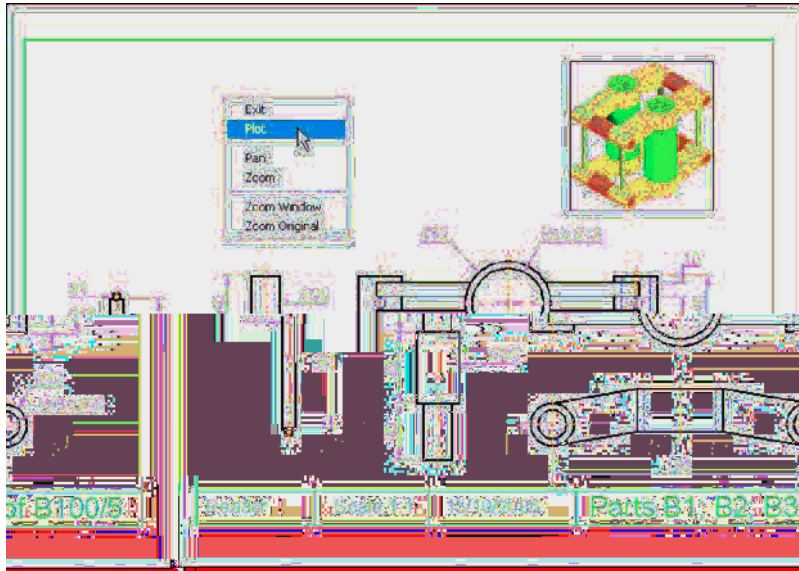

Fig. 19.9 Second example – Printing/plotting
Second example – **Printing/plotting** (Fig. 19.9)
4. If satisfied with the preview (Fig. 19.9), right-click and in the menu which appears click the name **Plot**. The drawing plots.